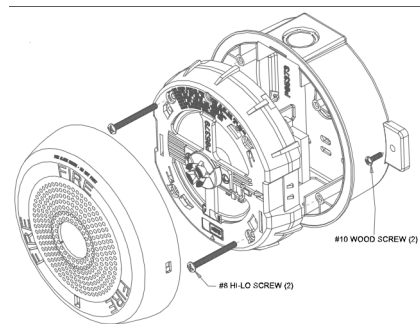
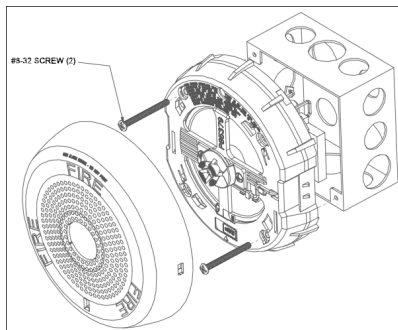

Figure 6: Ceiling Speaker or Speaker Strobe with Surface Mounting Box
Figure 7: Speaker or Speaker Strobe with 4" Backbox
NOTE: Speaker Strobe mounting are depicted in Figure 6 & 7. For non-strobe speaker surface mounting, use same surface box or backbox as depicted in Figure 6 and Figure 7.
NOTE: Surface backbox (LSPKBBxC) shown in Figure 7, is compatible with wiremold and conduit. Mounting holes are for single-gang, double-gang, and #10 wood screws for stud mounting. If metal conduit is installed onto top and bottom conduit entrances, then an insulated grounding wire (18 AWG, supplied) must be connected between the top and bottom plate by using thread cutting screws (supplied) to provide electrical continuity per UL 50.
7. All models can be flush mounted to a 4" square by 2-1/8" deep backbox in the wall, refer to Figure 7.